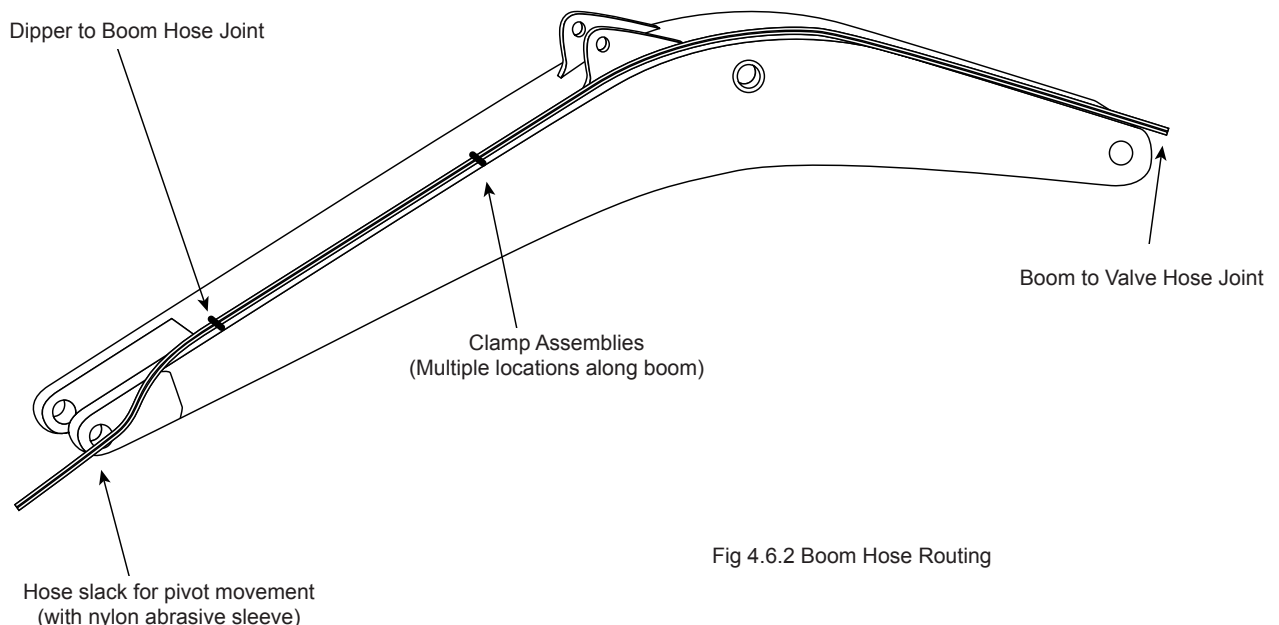

Fig 4.6.2 Boom Hose Routing
- Lay the Boom hoses along the top of the boom arm in preparation of determining the best hose clamp position for this part of the installation. (Fig 4.6.2)